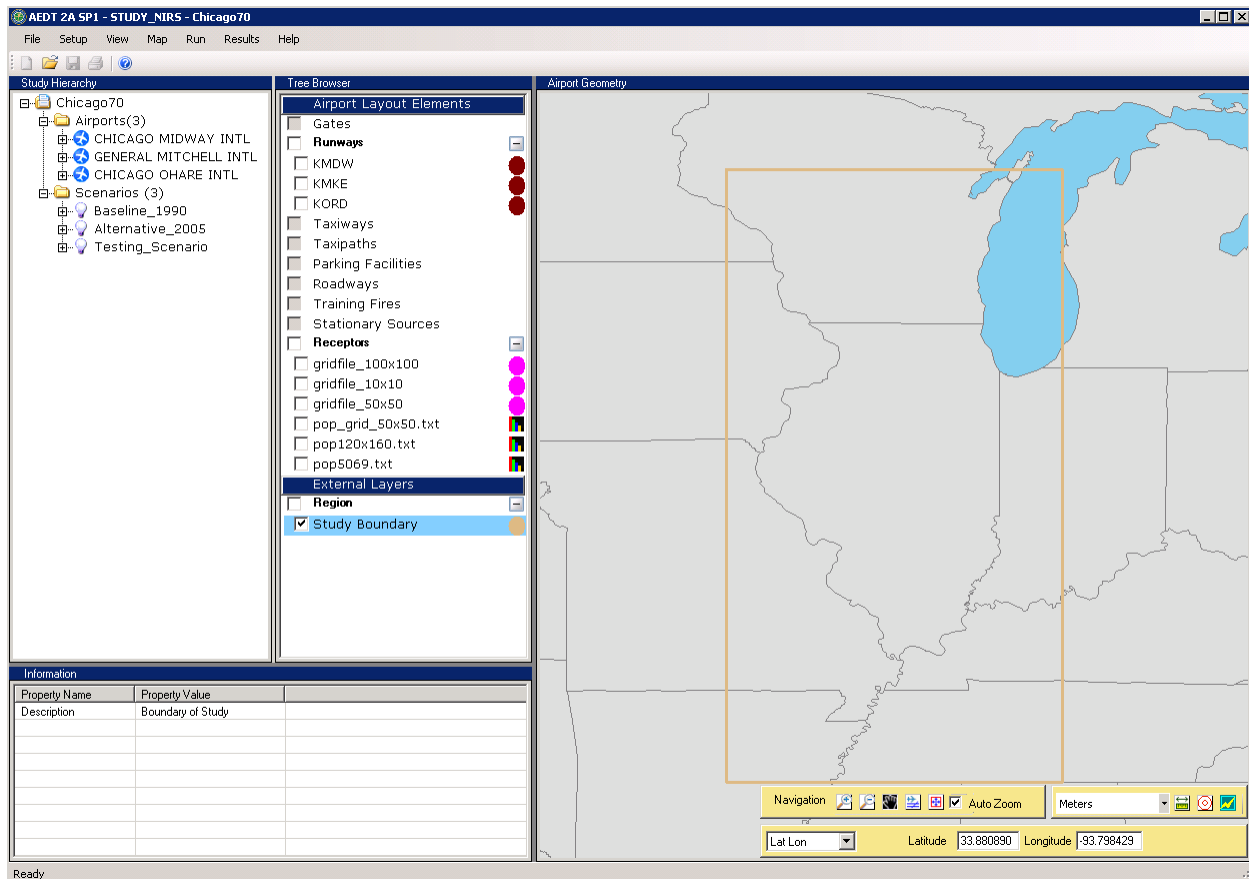

Figure 6-3 Study Boundary in Airport Geometry
2. The study boundary is displayed in the Airport Geometry (Figure 6-3) and a new study boundary layer is displayed under the Region category in the Tree Browser.